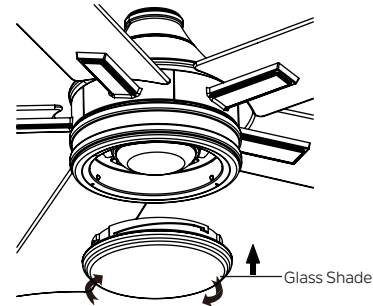

Fig. 24
**Step 3.** Secure the glass shade to light plate by turning in a clockwise direction. Turn the glass shade gradually until it snaps on to the light plate. DO NOT OVER-TIGHTEN. (Fig. 24)